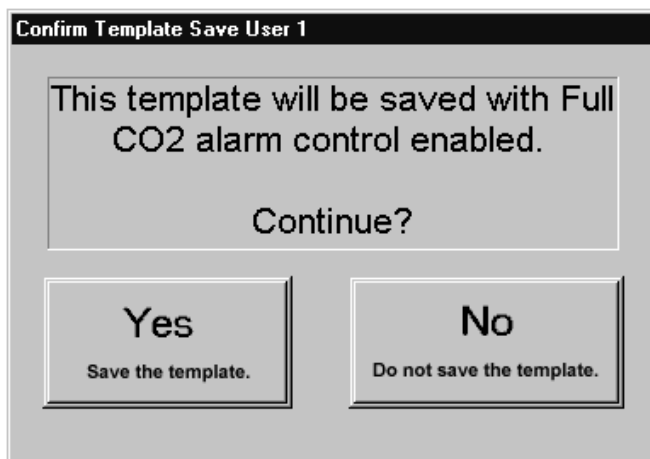
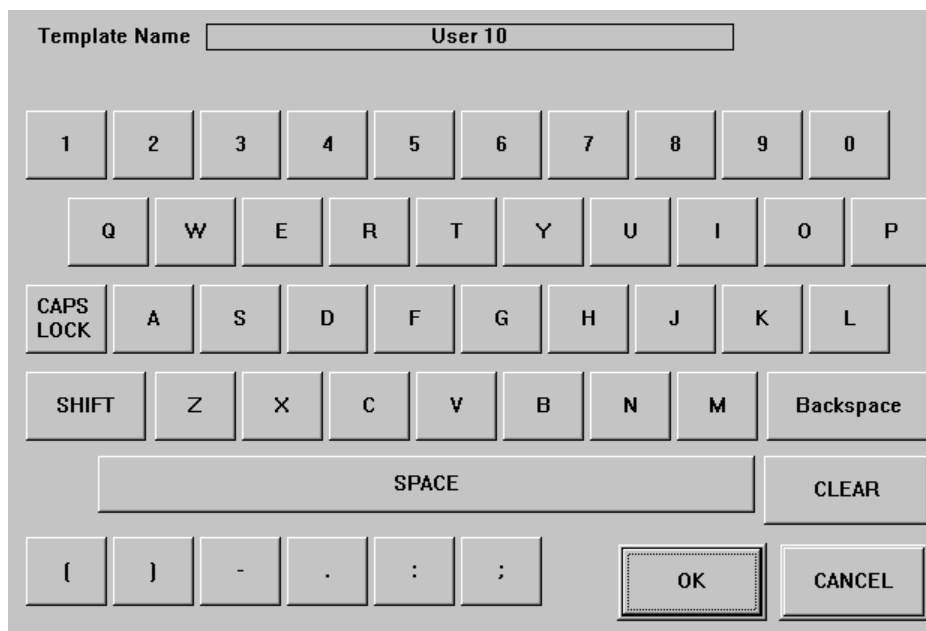

Figure 3-14. Save Template Confirmation Dialog Box (Full CO₂ Control Mode)
Figure 3-15. Keyboard Window
3. If the clinician selects either **[Site Defaults]** or **[Current Settings]**, and those settings have the Full CO₂ alarm control enabled, a confirmation dialog box is displayed (Figure 3-14), followed by a keyboard to allow the clinician to enter a template name (Figure 3-15). If Limited CO₂ alarm control is enabled, the clinician is presented directly with the keyboard (Figure 3-15).